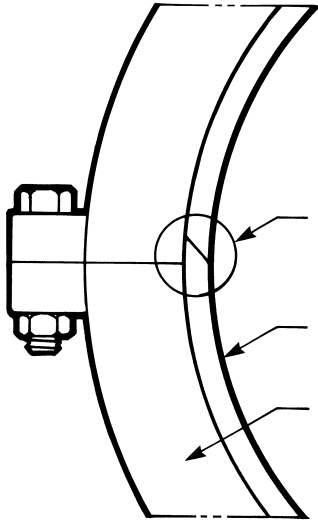

Figure 16
7. **Sizes 2"– 12":** Orient the top body half so that when put together with the bottom half, the counterbored bolt holes will line up with the body bushings (1C) in the bottom half. The DURCO logo on the top body half should be on the opposite side of the bottom half when bolted together. Firmly push the seat energizer into the groove in the top body half. Orientate the angled cuts on the ends of the energizers such that when the body halves are bolted together, the ends on the top half will mate with the bottom half. (Figure 16).